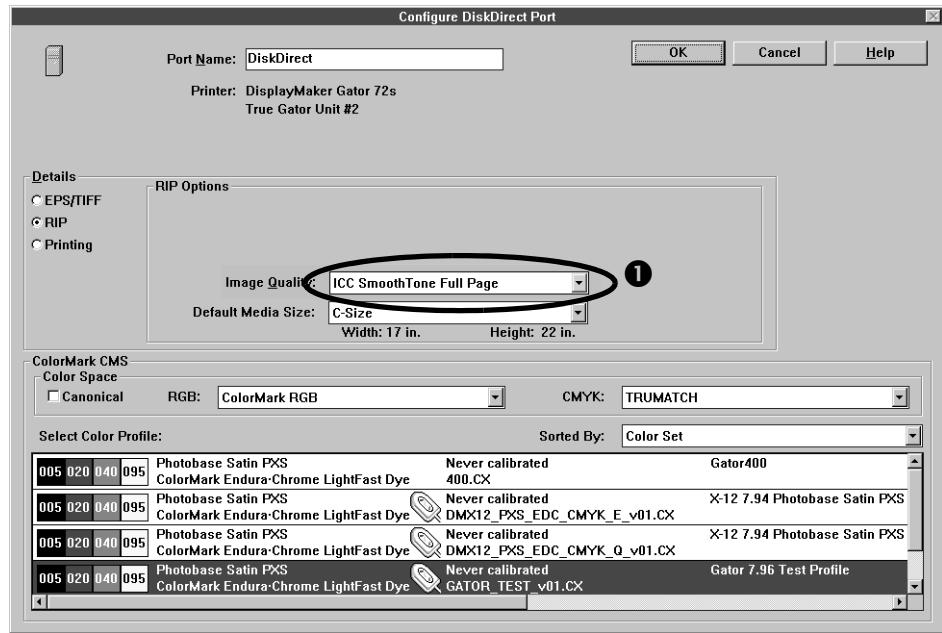

Fig. 6-10. Port configuration for ICC workflow
- 3. In the Port Configuration dialog box on the ColorSpan RIP, set the Image Quality to ICC SmoothTone Full Page, ICC Mural Better, or ICC Mural Bigger. (See ① in Fig. 6-10 on page 6-21.)**
- 4. Select the ink set and media you are using. (See ② in Fig. 6-10 on page 6-21.)**